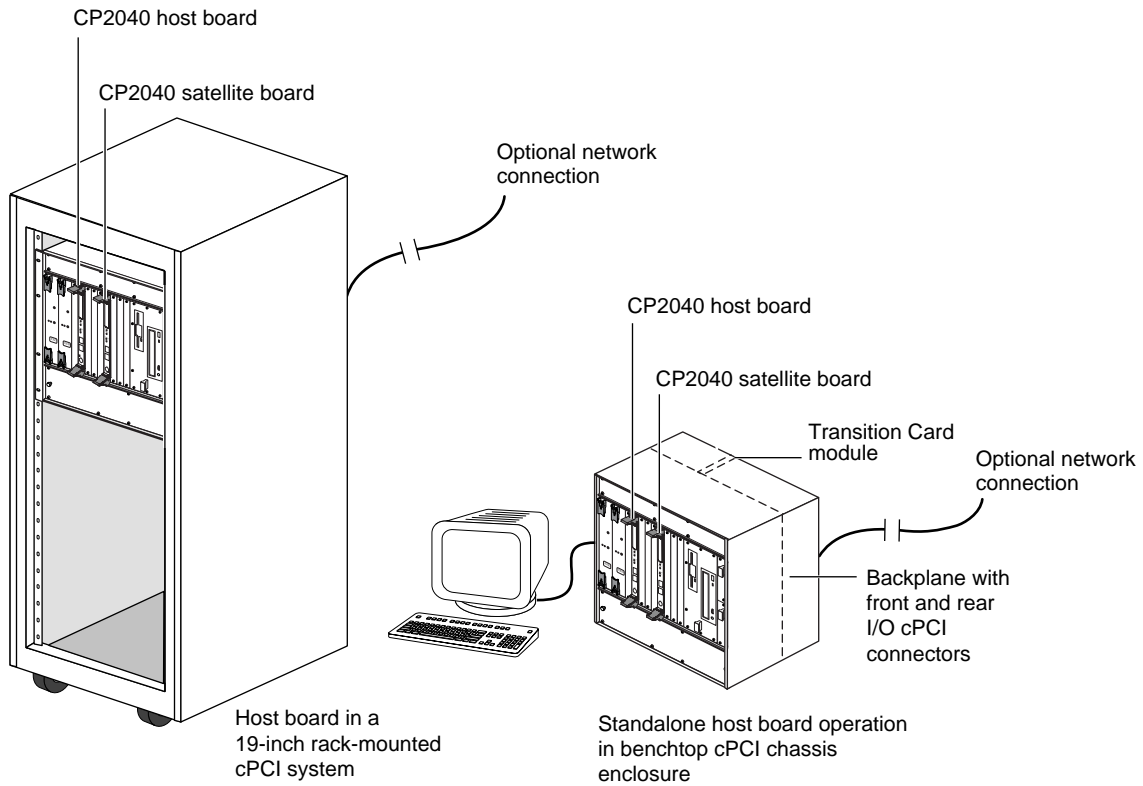

FIGURE 5-1 Examples of Netra CP2040 Hardware Configurations
The Netra CP2040 host board can be mounted in various enclosures. It can be deployed in various electrical configurations to suit each end-user's requirements. For example, the host board can be used with a transition card and configured to boot from a network as a diskless client. Alternatively, industry-standard PMC and PIM hardware from Independent Hardware Vendors (IHVs) can be employed to provide local disk I/O which may optionally be used as a boot path. The basic installation procedure is independent of the type of enclosure used - a floor-mounting rack, a bench-top cabinet or some other configuration. The memory is user configurable. See FIGURE 5-1 for Netra CP2040 hardware configuration examples.
- CompactPCI enclosure to accommodate 6U boards, comprising: chassis, backplane, power supply. FIGURE 5-1 shows a typical configuration. See Chapter 2 “Specifications” to ensure that your enclosure meets the power supply and cooling requirement specifications.